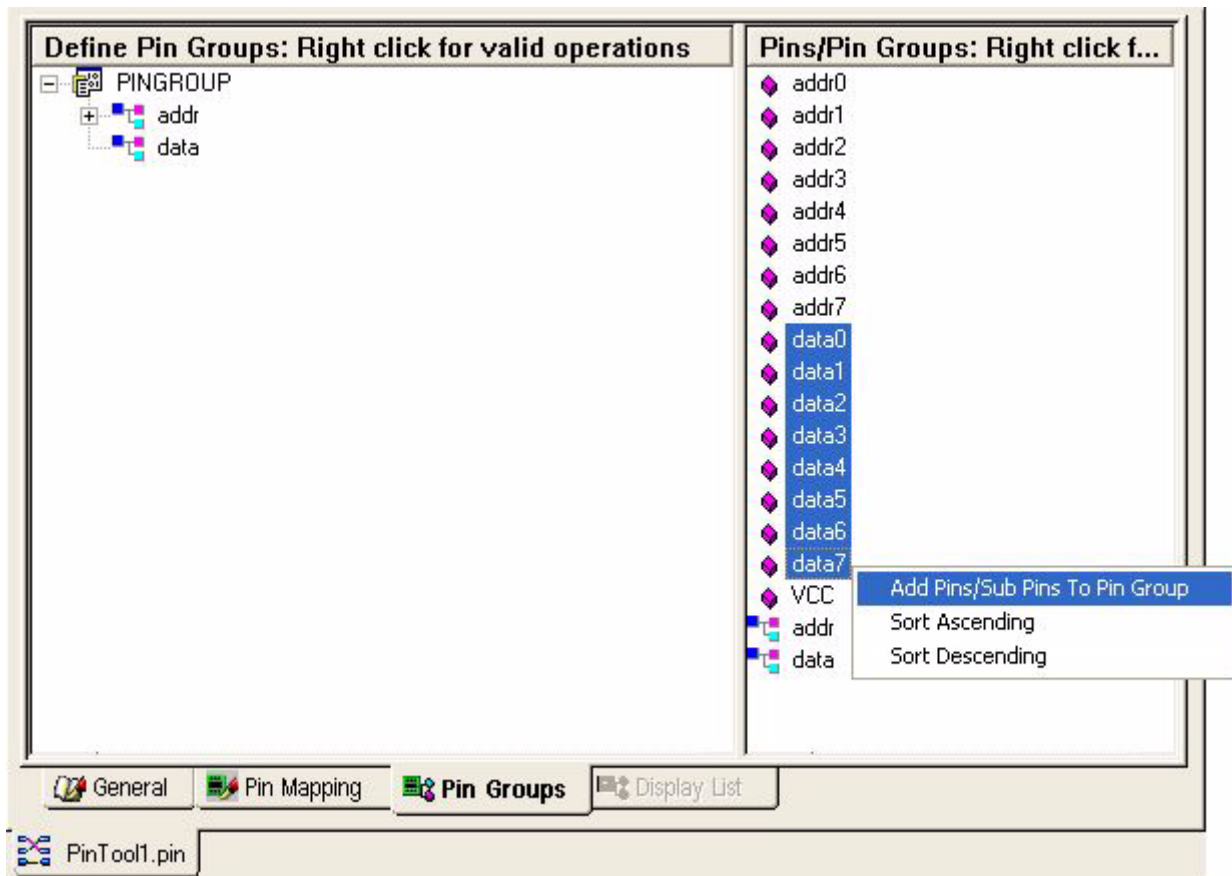

Figure 3-41. Adding Pins to the data Group Name
- 6 Selecting `data0` through `data7` on the right side in the Pins/Pins Group panel and right clicking to display the pop-up menu with the Add Pins/Sub Pins To Pin Group command (Figure 3-41) adds those pins to the `data` group on the left side in the Define Pin Groups panel.